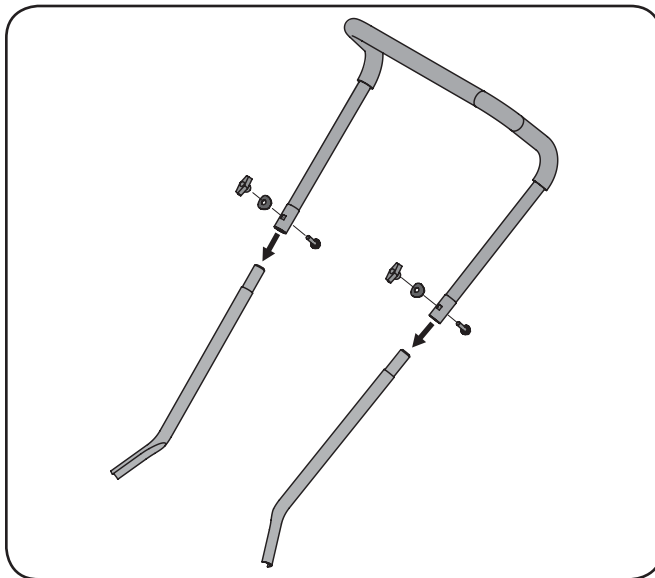

Figure 3-1
1. Secure the upper handle to the mid handles with two carriage bolts, two saddle washers and two wing knobs. See Fig. 3-1.